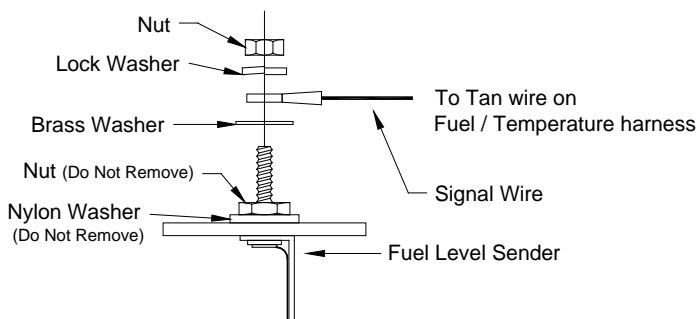

Figure 11
Step 3: Connect the fuel sender to the tan wire (position B) of the fuel / temperature wiring harness. See figure 11 for wiring diagram. Note: Requires 0-30 ohm fuel sender.